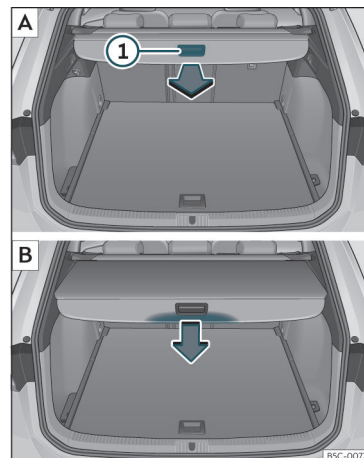

Fig. 109 In the luggage compartment: unrolling and rolling up the shelf.
- Pull evenly on the rear shelf using its handle»» **Fig. 109** ① **A** in a backwards direction until it audibly clicks into place.
- Press on the handle of the rear shelf in the direction of the arrow to release it»» **Fig. 109** ② **B**.